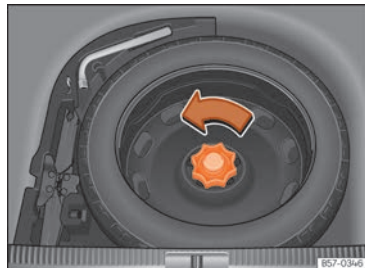

Fig. 321 In the luggage compartment: load floor raised.
- Turn the thumb wheel anti-clockwise »» Fig. 321.